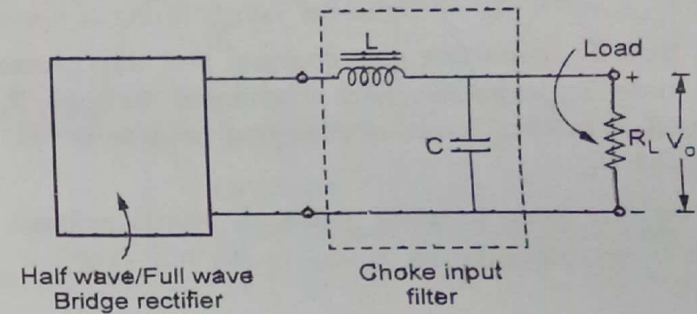

Fig. Q.34.1
- The Fig. Q.34.1 shows the choke input filter.